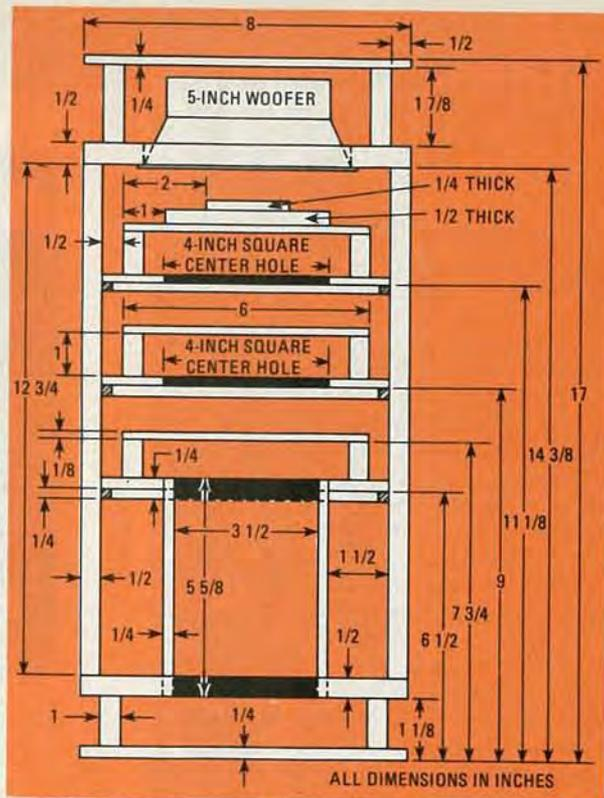

FIG. 6—CRITICAL DIMENSIONS for mini-SAFE enclosure. If woofer is deeper than one shown, top supports may be lengthened.
1. Cut all parts to size, using the dimensions given in the Parts List and Fig. 6. Don't forget the 4-inch-square center holes in partitions 2, 4, 6, and the enclosure bot-
20. Mount the woofer on the enclosure top as shown in Fig. 6. Note that it is attached *inside* the enclosure.